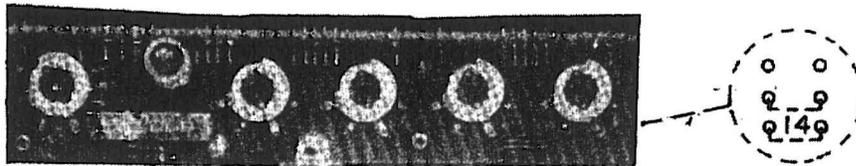
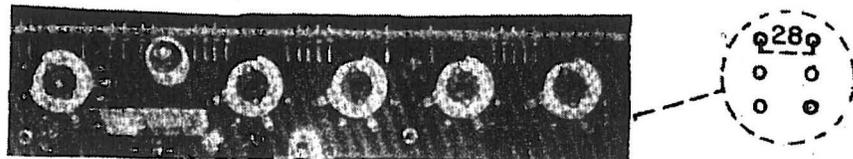

FIGURE 2-1A +13.75VDC OPERATION
FIGURE 2-1B +27.5VDC OPERATION
- 1) Remove the front panel of the radio, Figure 2-1 shows the front of the switch board. In the lower right corner are located six jumper pins. Figure 2-1a shows the proper jumper connection for 14VDC operation while Figure 2-1b shows the connections for 28VDC operation